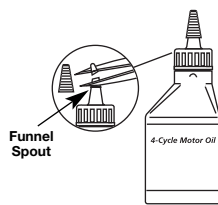

Fig. 1
Your unit is supplied with one 3.04 fluid oz. (90 ml.) bottle of SAE 30 SF, SG, SH oil (Fig. 1).
1. Unscrew the top of the bottle of oil and remove the paper seal covering the opening. Replace the top. Next, cut the tip off the funnel spout (Fig. 1).